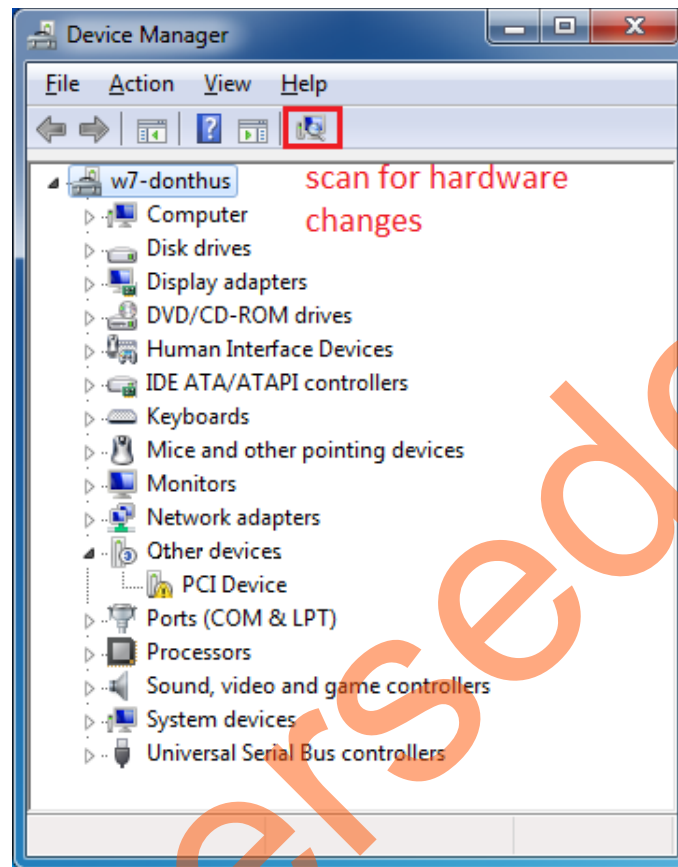

Figure 8 • Scan for Hardware Changes Option in the Device Manager Window
6. If the device is not detected, power cycle the SmartFusion2 Development Kit and click **scan for hardware changes** option in the **Device Manager** window. Figure 8 shows the **scan for hardware changes** option in the **Device Manager**.